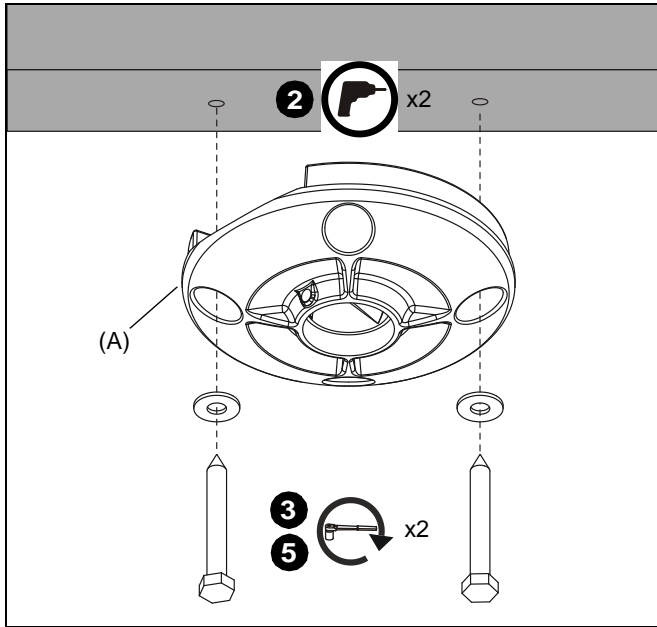

Figure 2
2. Drill 1/4" (6.4mm) diameter pilot holes into wood joist (See Figure 2). Ensure pilot holes are straight.
3. Using 9/16" (14.3mm) socket wrench, loosely install 3/8" x 2-1/2" (9.5mm x 63.5mm) lag screws through 5/16" (7.9mm) washers, plate (A), into wood joist (See Figure 2). Do not tighten plate (A) against ceiling at this time to accommodate cable installation.
5. Tighten lag screws (See Figure 2).